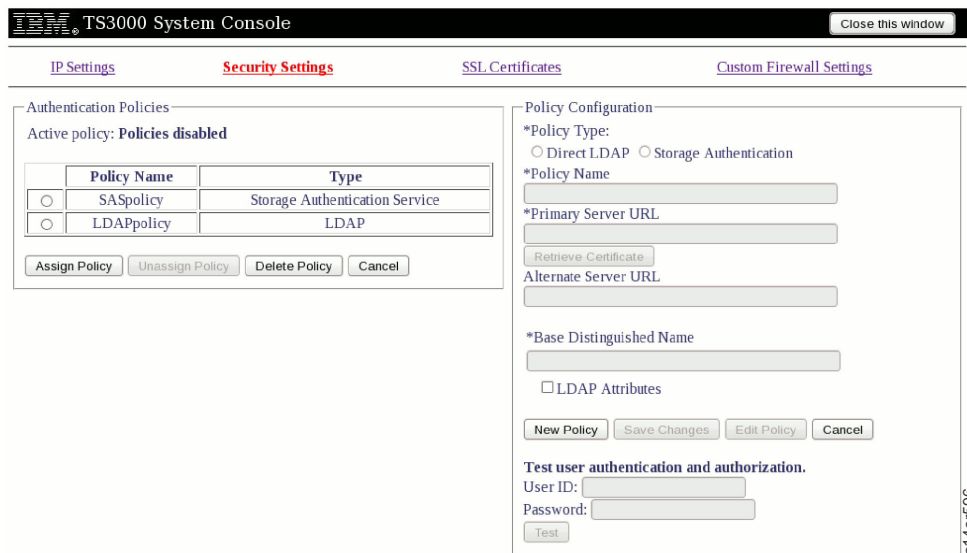

Figure 2-95. Security Settings
- | 3. From Figure 3-93 on page 3-74, select **Console Settings -> Security Settings**. You see the screen shown in Figure 2-95 on page 2-63: